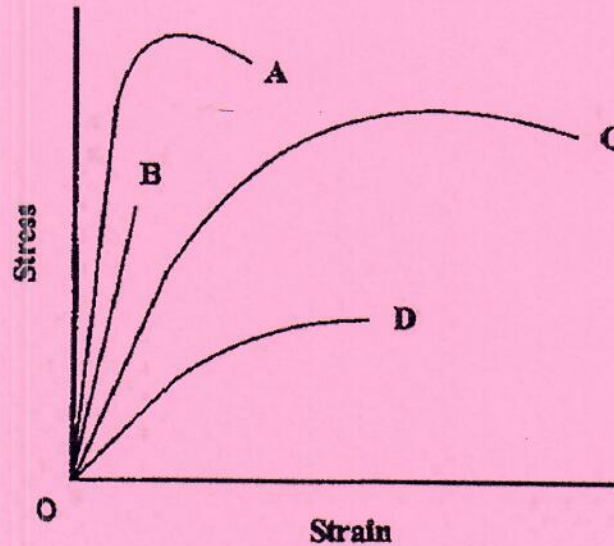

Figure 1 A graph showing stress-strain behaviour of four metals
- f) Figure 1 shows the stress-strain curves of four metals A, B, C and D. state the property exhibited by the metals. [8 marks]